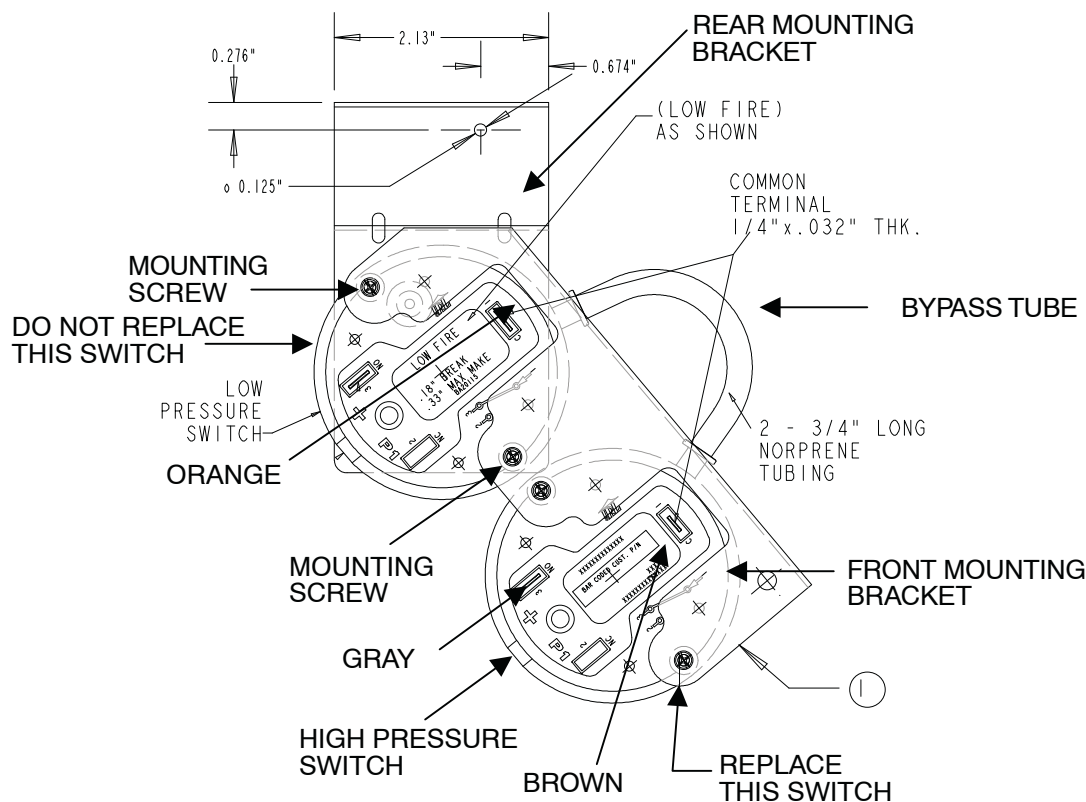

Fig. 1 - Pressure Switch
1. Mark two (2) wires connected to the high-fire pressure switch.
2. Disconnect the two (2) wires from the high-fire pressure switch.
5. Remove the two (2) screws securing high-fire pressure switch to mounting bracket. (See Fig 1).
7. Install new high altitude high-fire pressure switch to the mounting bracket with two (2) screws.
10. Reconnect wires to the switch as shown in Fig. 1 or refer to the furnace wiring diagram.